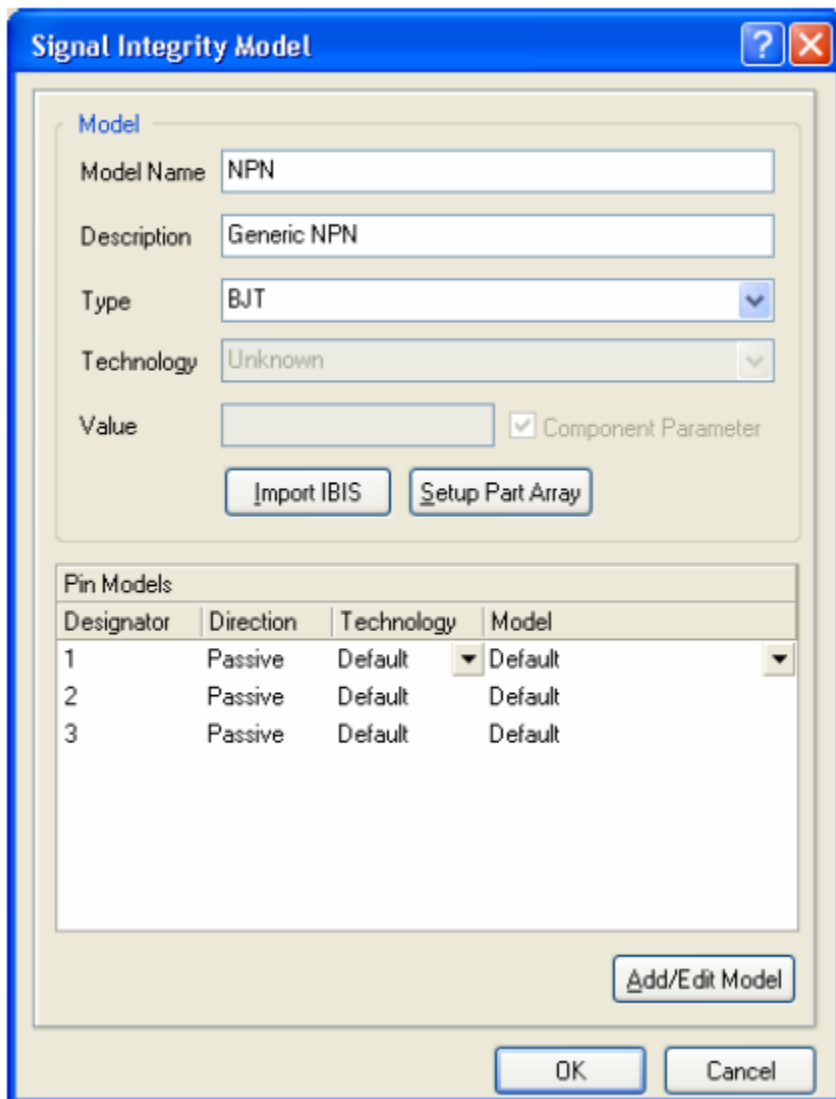

Figure 22. Signal Integrity model editor, configured for the NPN transistor.
2. If you wish to import an IBIS file, click on the **Import IBIS** button and navigate to the required .ibs file. For this tutorial we will use built-in default pin models. Set the **Type** to **BJT** and type in suitable entries for the **Model Name** and **Description** fields (eg. NPN), as shown in Figure 22.